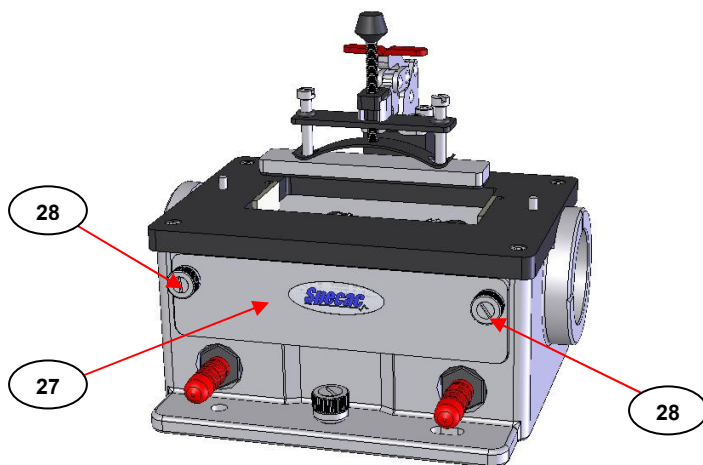

Fig 13. Front Cover Plate on the Optical Unit
To gain access to the movable mirrors (5) within the optical unit (2) for alignment, the front cover plate (27) is removed. There are two fixing thumbscrews (28) holding the cover plate (27) in position that are loosened by pushing them in and turning anticlockwise (see Fig 13.) (The thumbscrews (28) will remain captive in the cover plate (27).)